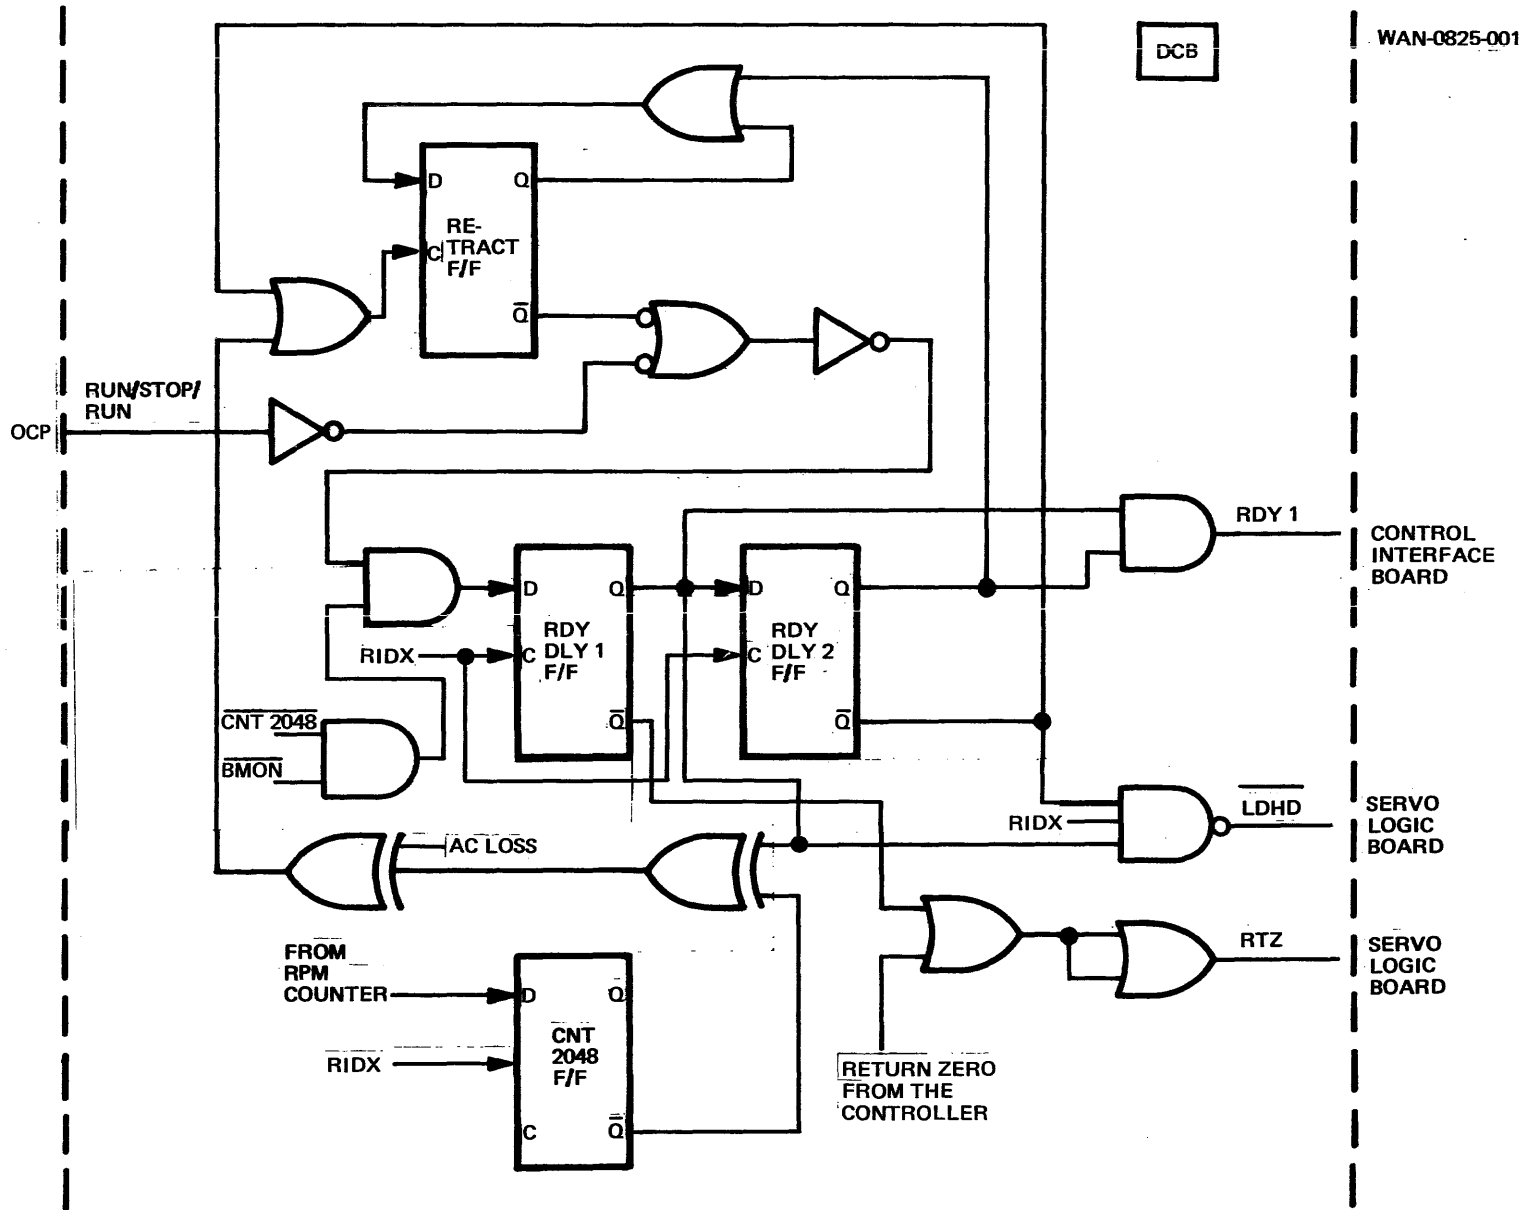

Figure 4-15. Block Diagram of Head Load Logic
4.5.3.5.1 RTZ. A Return To Zero carriage return signal is generated during the power-on sequence to ensure that the carriage is retracted before the loading door can be opened. With the RUN/LOAD switch in LOAD position, the input from the switch is inverted and routed through an OR gate to clear the RDY DLY 1 flip-flop. The false output of this flip-flop is routed through two NOR gates and signal RTZ is high. A jumper option is included to permit the customer to select an inverted RTZ output signal. However, the jumper is hardwired in the position shown on the schematic when the unit is shipped from the factory. A basic block diagram of the load head logic circuit is shown in Figure 4-15. If the RUN/LOAD switch is placed in RUN position, the complement output of the CNT 2048 flip-flop in the retract circuit is low whenever the spindle speed is more than one percent below the specified figure. This causes the RDY DLY 1 flip-flop to clear and the RTZ line to be high. The RTZ signal is routed to the Servo Logic board where it is used as the determined Set Signal for the Unload flip-flop.
4.5.3.5.2 LD HD (L). This is a pulse used to initiate the Initial Seek to track 000 which includes the head loading operation. This signal will be an active low for exactly the time duration of one Removable Index pulse (RIDX) and will be generated in the following manner (ref. figure 4-15):
- B. The same RIDX pulse will clock the RDY DLY 2 flip-flop set. This enables two legs of the LD HD (L) NAND gate. The next RIDX to arrive will generate LD HD (L) and it will be exactly the width of an RIDX pulse. This last RIDX pulse also clocked the RDY DLY 2 flip-flop set; therefore, additional LD HD (L) pulses will not be generated.